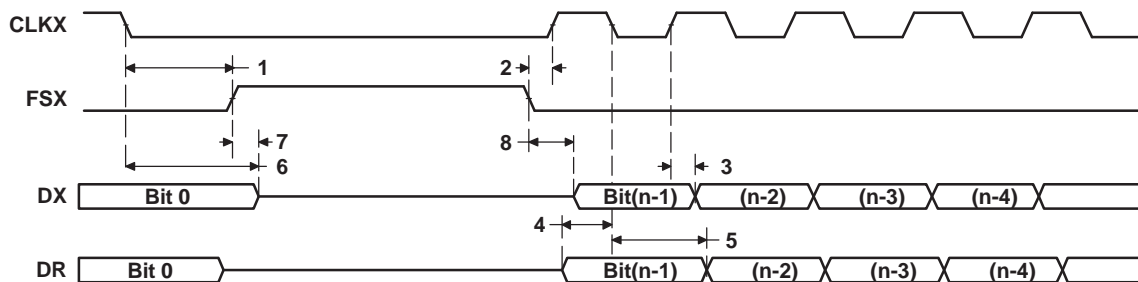

Figure 6-27. McBSP Timing as SPI Master or Slave: CLKSTP = 10b, CLKXP = 0
Table 6-43. Timing Requirements for McBSP as SPI Master or Slave: CLKSTP = 10b, CLKXP = 0⁽¹⁾ (2) (see Figure 6-27)
(see Figure 6-27) (continued)
Table 6-44. Switching Characteristics Over Recommended Operating Conditions for McBSP as SPI Master or Slave: CLKSTP = 10b, CLKXP = 0 ^{(1) (2)} (see Figure 6-27)